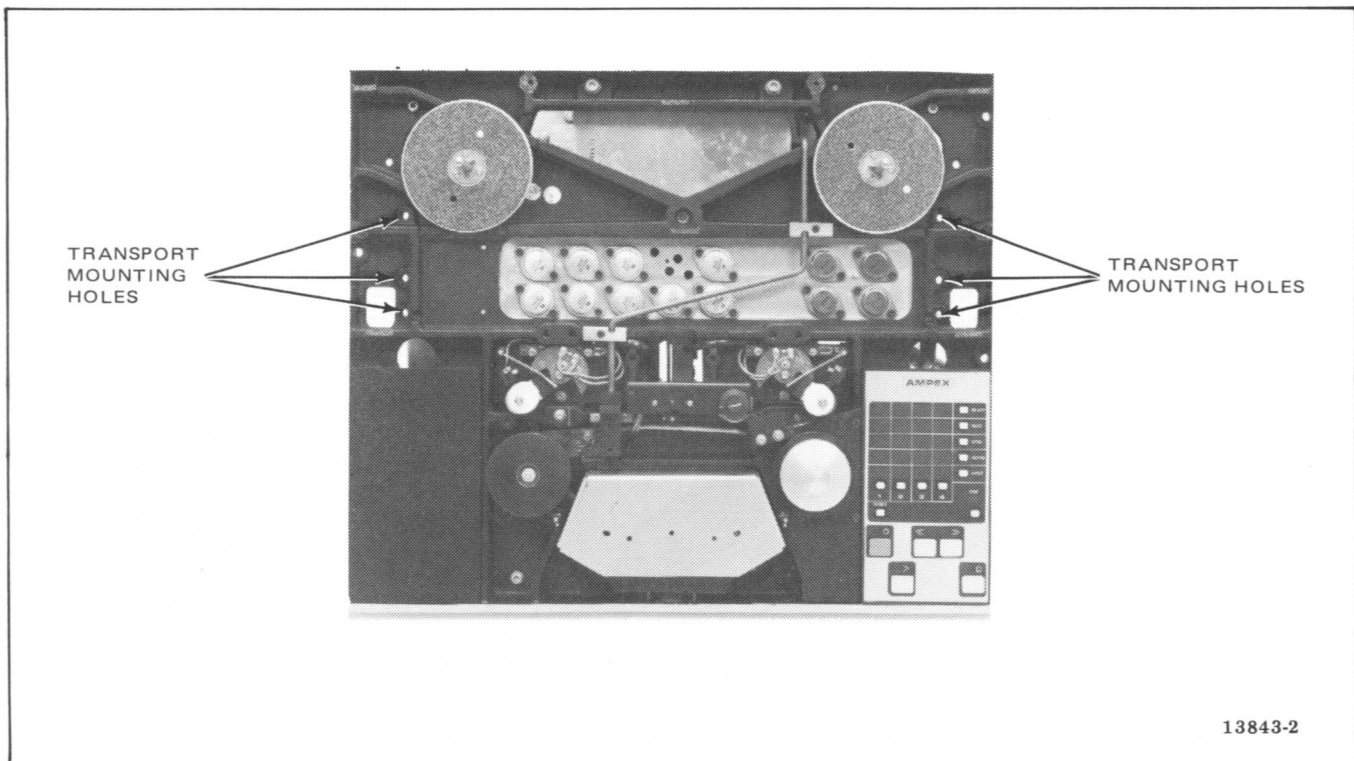

Figure 2-8. Slide-Rack Mount Transport-Mounting Holes
2. Locate the six transport mounting holes (Figure 2-8) that are used to mount the transport to the pivot bracket.